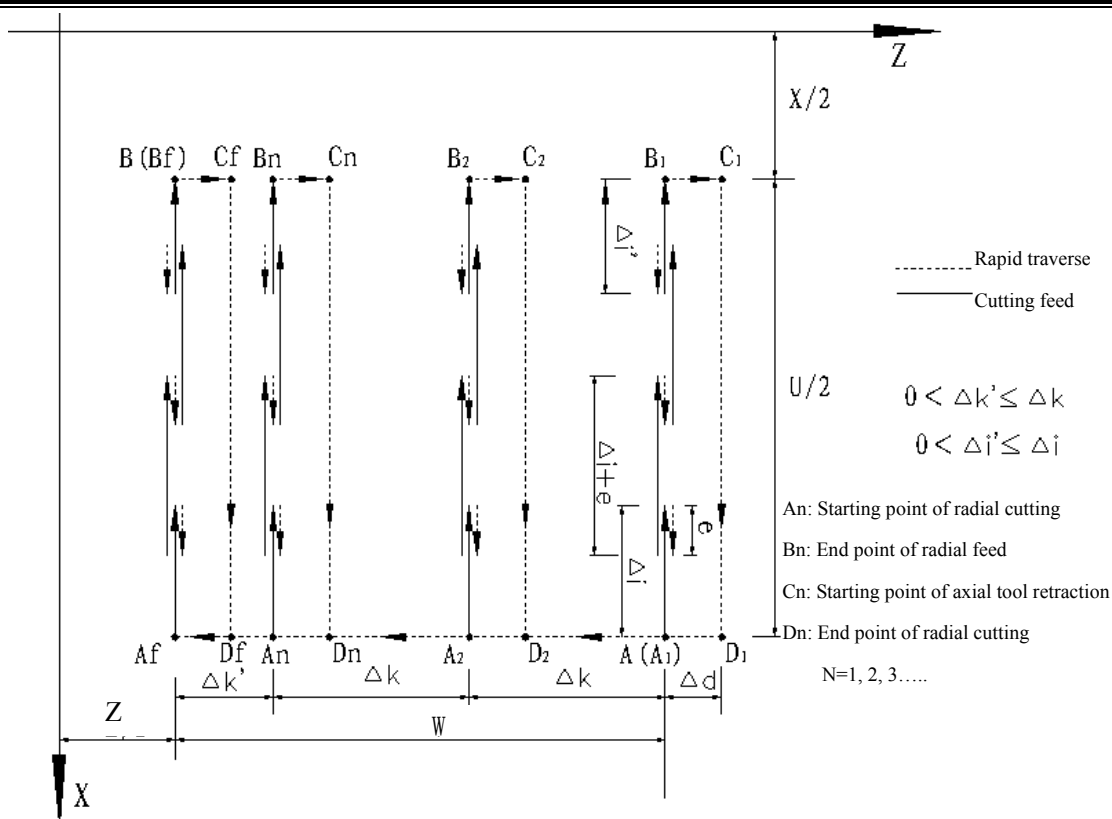
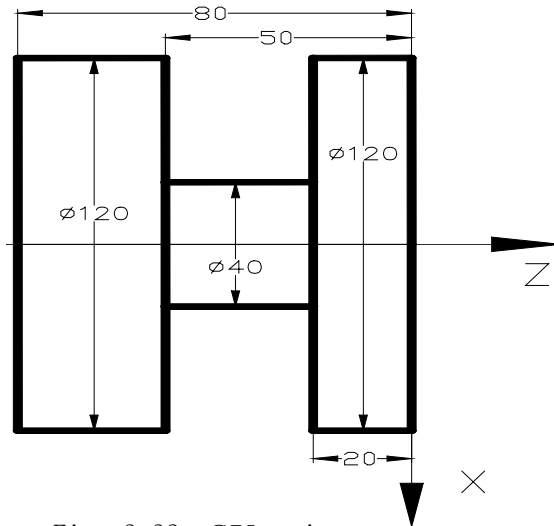

Fig. 3-31 G75 path
Fig. 3-32 G75 cutting
**Execution process:(Fig. 3-31)**
- ① Radial (X axis) cutting feed  $\Delta i$  from the starting point of radial cutting cycle, feed in X negative direction when the coordinates of cutting end point is less than that of starting point in X direction, otherwise, feed in X positive direction;
- ② Radial(X axis) rapid tool retraction  $e$  and its direction is opposite to the feed direction of ①;
- ③ Cutting feed( $\Delta k+e$ ) again in X direction, the end point of cutting feed is still in it between starting point  $A_n$  of radial cutting cycle and end point of radial tool infeed, cutting feed ( $\Delta i+e$ )again in X direction and execute ②; after cutting feed ( $\Delta i+e$ )again in X direction, the end point of cutting feed is on  $B_n$  or is not on it between  $A_n$  and  $B_n$  cutting feed to  $B_n$  in X direction and then execute ④;
- ④ Axial(Z axis) rapid tool retraction  $\Delta d$  (radius value) to  $C_n$ , when the coordinates of  $B_f$  (cutting end point) is less than that of A (starting point) in Z direction, retract tool in Z positive, otherwise, retract tool in Z negative direction;
- ⑤ Radial(Z axis) rapid retract tool to  $D_n$ , No. n radial cutting cycle is completed. The current radial cutting cycle is not the last one, execute ⑥; if it is the previous one before the last radial cutting cycle, execute ⑦;
- ⑥ Axial(X axis)rapid tool infeed, and it direction is opposite to ④ retract tool. If the end point of tool infeed is still on it between A and  $A_f$  (starting point of last radial cutting cycle) after tool infeed ( $\Delta d+\Delta k$ ) (radius value) in Z direction, i.e.  $D_n \rightarrow A_{n+1}$  and then execute ① (start the next radial cutting cycle); if the end point of tool infeed is not on it between  $D_n$  and  $A_f$  after tool infeed ( $\Delta d+\Delta k$ ) in Z direction, rapidly traverse to  $A_f$  and execute ① to start the first radial cutting cycle;
- ⑦ Rapidly traverse to return to A in Z direction, and G75 is completed.
- The cycle movement is executed by X (W) and P ( $\Delta i$ ) blocks of G75, and the movement is not executed if only “G75 R ( $e$ );” block is executed;
- $\Delta d$  and  $e$  are specified by the same address R and whether there are X(U) and P( $\Delta i$ ) words or not in blocks to distinguish them;
**Example:** Fig. 3-32